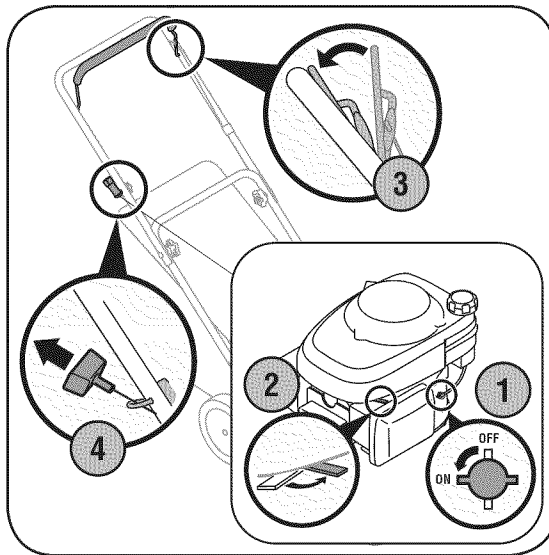

Figure 4-3: Starting the Honda engine.
1. Place the fuel valve lever found on the left side of the engine into the ON (OPEN) position, Figure 4-3.
3. Standing behind the mower, squeeze the blade control against upper handle, Figure 4-3. The choke will now begin to slowly return to the off choke position after activating the blade control. Therefore, quickly move onto step four below.
4. Holding these two handles together firmly, grasp recoil starter handle and pull rope out with a rapid, continuous, full arm stroke, Figure 4-3. Keeping a firm grip on the starter handle let the rope rewind slowly. Repeat until engine cranks. Let the rope rewind each time slowly.